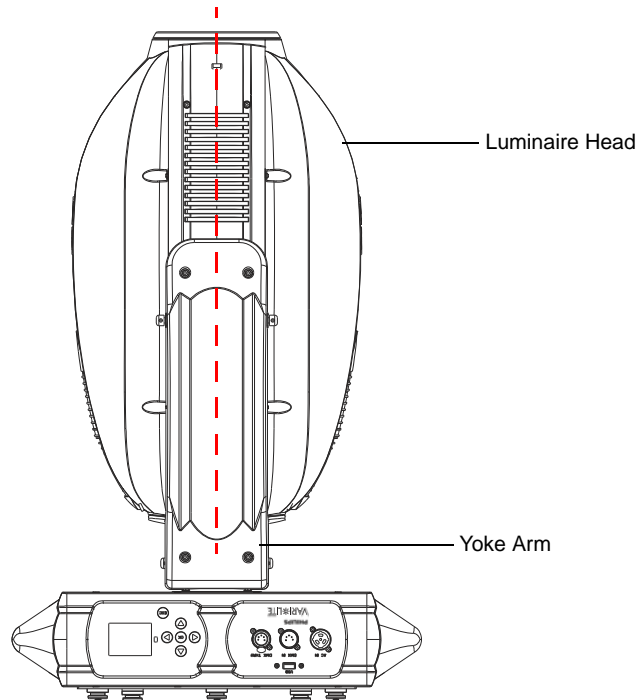

Figure 5: VL4000 Spot Luminaire
- Step 4. Manually move by hand the tilt of the luminaire's head until it is in alignment with the yoke arm as shown in Figure 5.